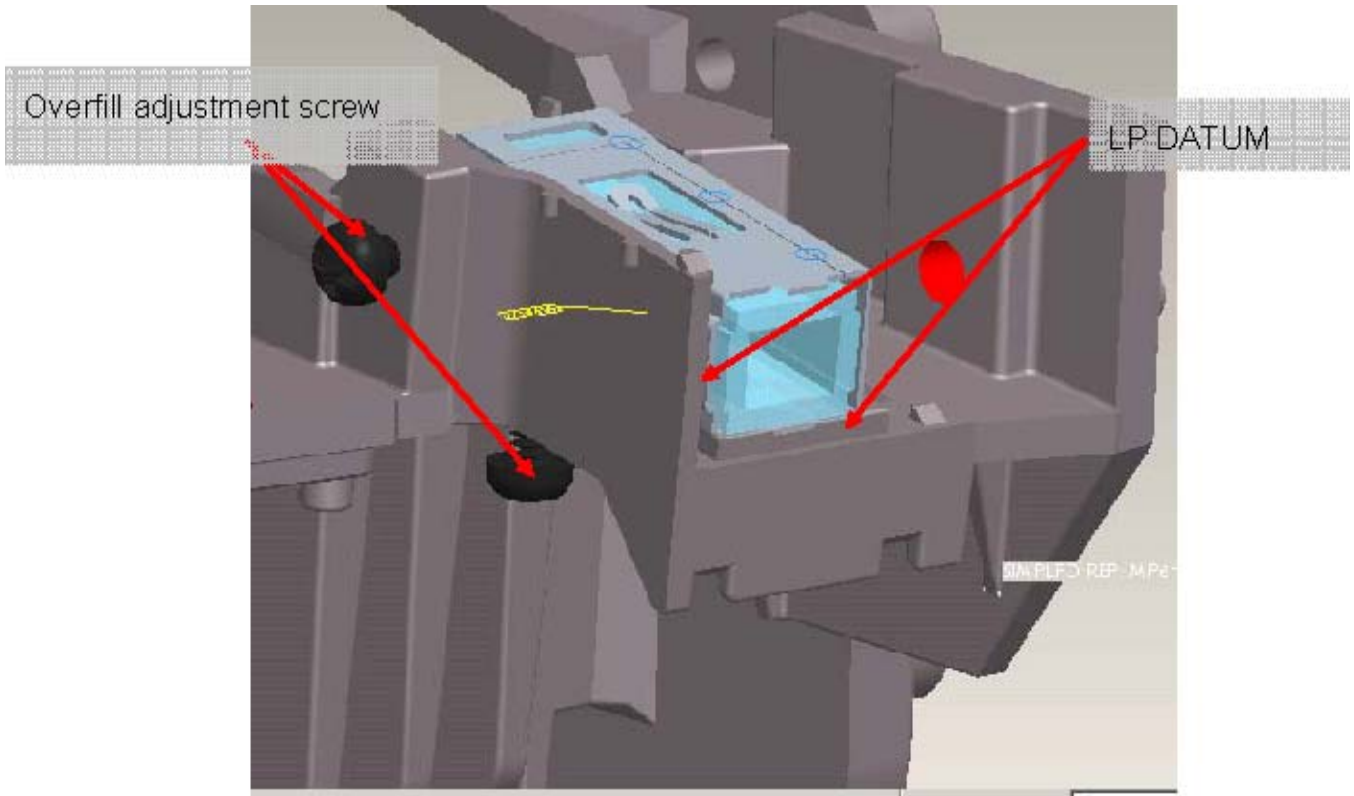

Figure 4-6 Figure 4-9
- iii. Placed LP Module on LP datum and adjustment screw well, shown (Figure 4-6) ◦